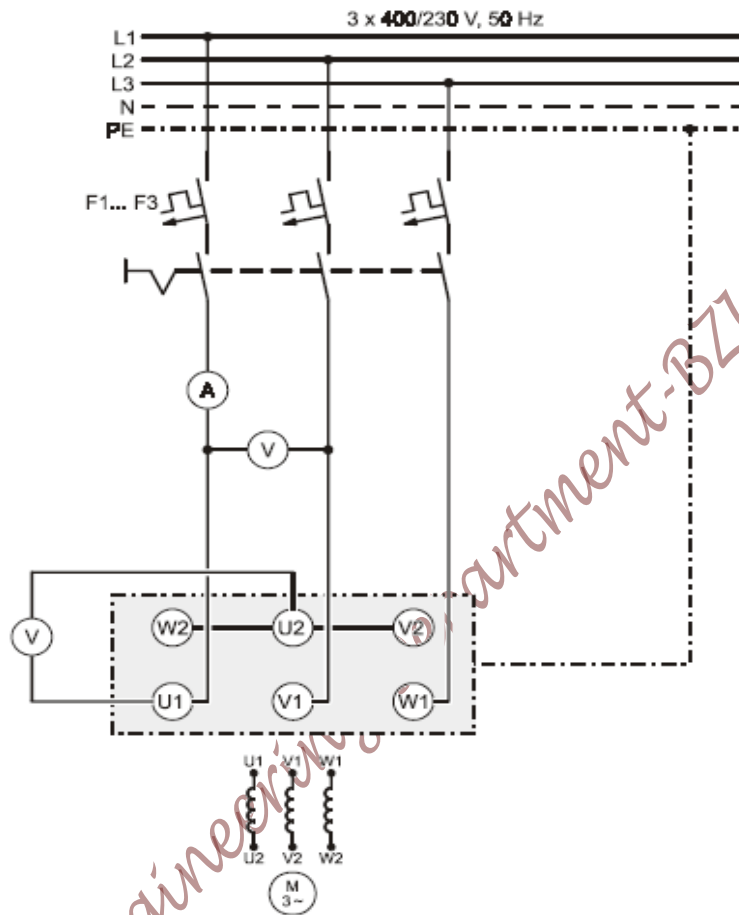

Figure 6.1 Circuit for studying the behavior of squirrel cage induction motor in Y connection
1. Set up the equipment as shown in Figure 6.1